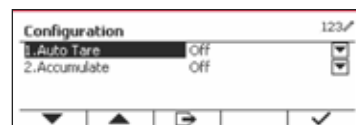

Figure 70
- Press the softkey corresponding to the  icon to enter Configuration. (See Figure 70)